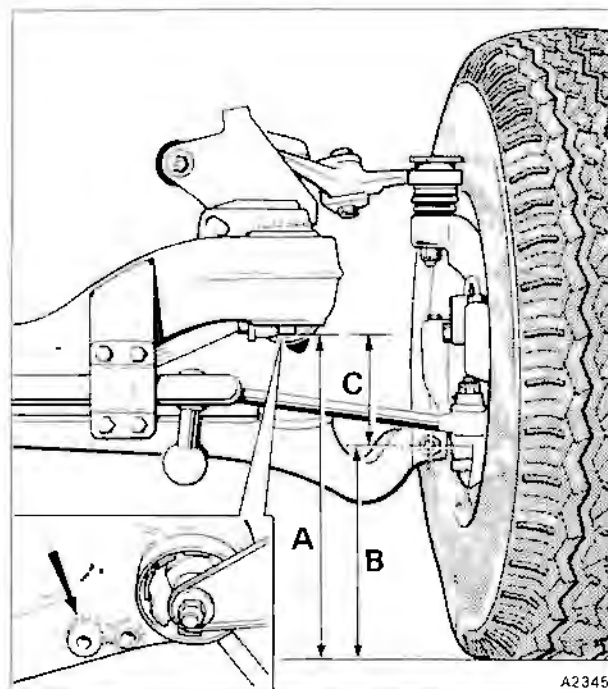

Fig. H7-1 Front height setting
Whenever the suspension has been partially or fully dismantled, the ride height of the car should be checked. This height is the vertical distance measured between the machined locating pads on the underside of the front sub-frame and the centre line of the triangle lever ball pin carrier securing bolt (see fig. H7-1).
8. Measure the ride height from the level surface on which the car stands, to the face of the front sub-frame locating pads. These pads are situated on the underside of the sub-frame adjacent to the front mounts (see fig. H7-1, dimension A).
9. Measure from the level surface to the centre of the bolt fitted through the lower ball pin carrier (see fig. H7-1, dimension B).